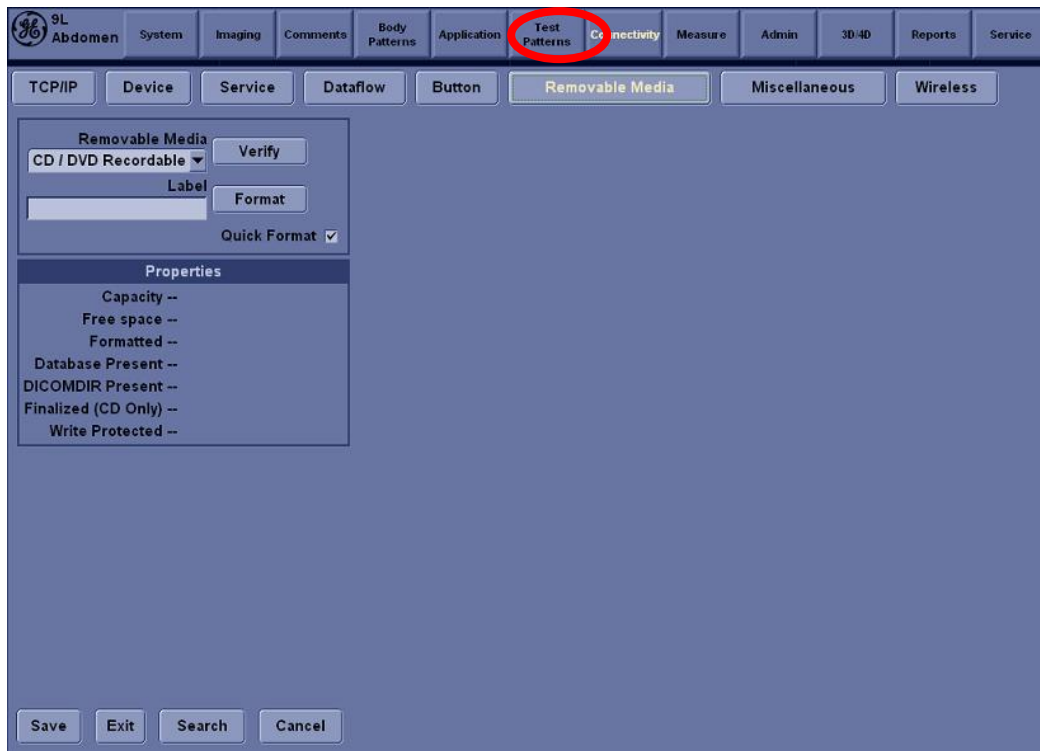
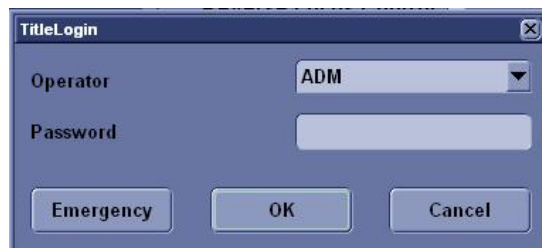

Fig.2 Connectivity in Utility menu
Fig.3 Title Login
- 2) Click Connectivity and select 'ADM' in Title Log In Window.(Fig.2, Fig.3)